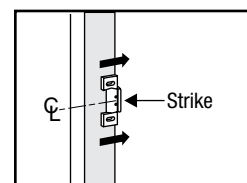

Figure 12
1. Using holes marked on stop in Step 1, mount strike. Be sure centerline of strike lines up with centerline of bolt. (Figure 12)